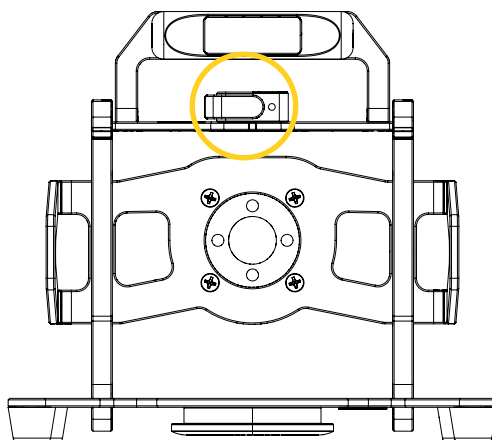

Figure 7: Unlocking the BP380 – GR
2. Unlock the BP380 – GR using the quarter-turn latch (Figure 7). Refer to the « Unlock the BP380 – GR » section on page 18 if needed.